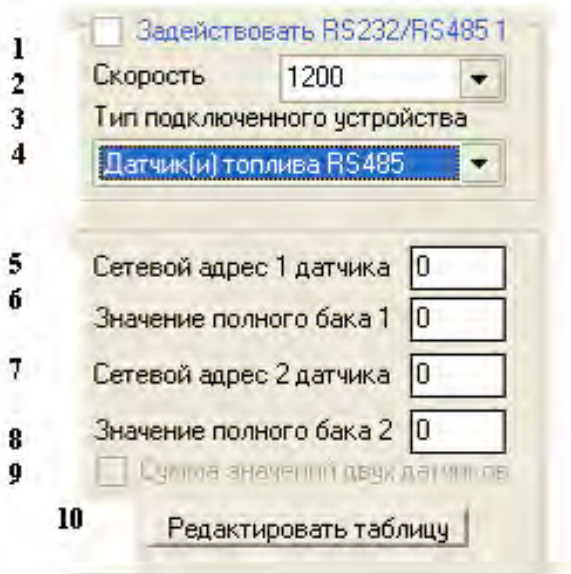

Figure 4.15
- **"JPEG camcorder C328"**. Device is connected with the external JPEG camcorder C328 or other compatible protocol camcorder. In the field **"Resolution"** is selected image resolution with which it will save to the external carrier (a figure 4.15).